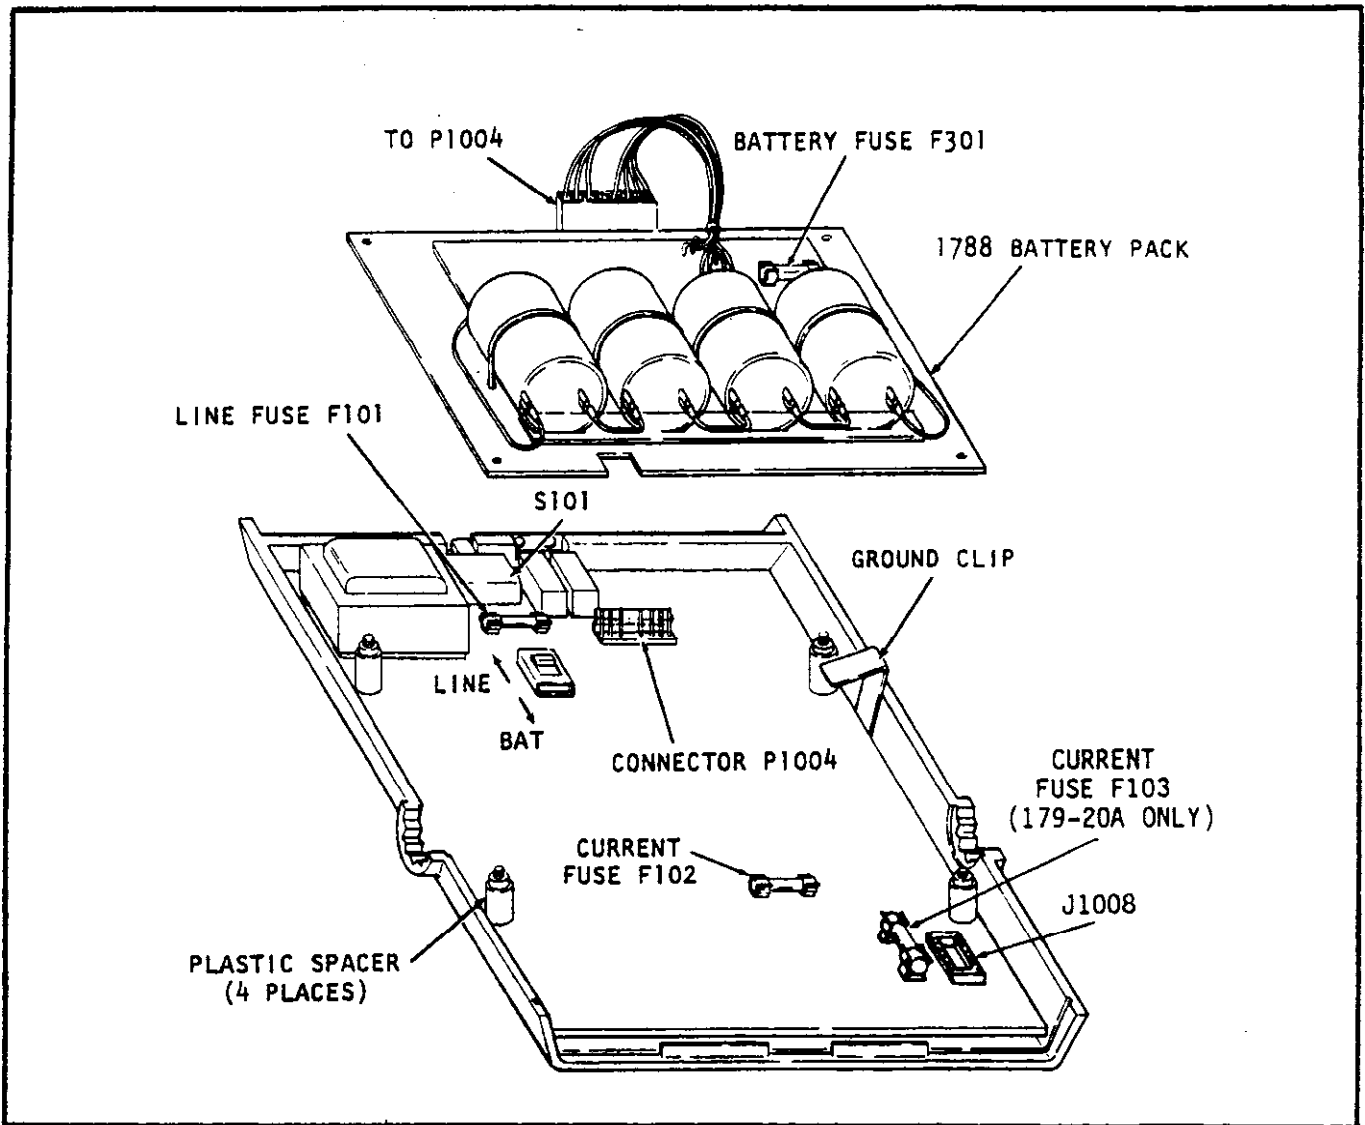

FIGURE 2-2. Battery Pack Installation
2-5. OPERATION ON BATTERY PACK POWER. The Model 179 DMM may also be operated from rechargeable sealed lead-acid batteries contained in the optional Model 1788 Battery Pack. The battery pack will operate the 179 DMM for up to 6 hours. Circuits within the battery pack will automatically shut down the instrument when the battery charge is insufficient to maintain accurate readings. Refer to Figure 2-2 and install the battery pack as follows:
- c. Set the BAT/LINE switch to the BAT position shown in Figure 2-2. Note that the battery pack will not operate properly if this switch is not in the BAT position.